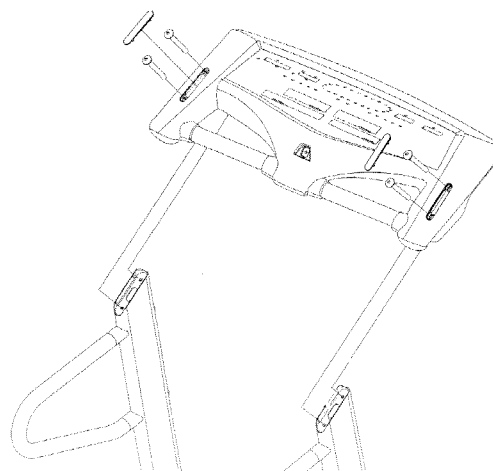

Figure 3
2. Raise the console (A) and connect the upper control wire (Figure 3) with the lower control wire (DK1087). Then, pivot the console and the uprights into position. **Note: Before continuing, confirm that no cables are pinched while raising the unit.** Next, tighten the console and the uprights with four (4) K-298 screws (M). Then, press left screw cover (H), and right screw cover (G) into place (Figure 3).